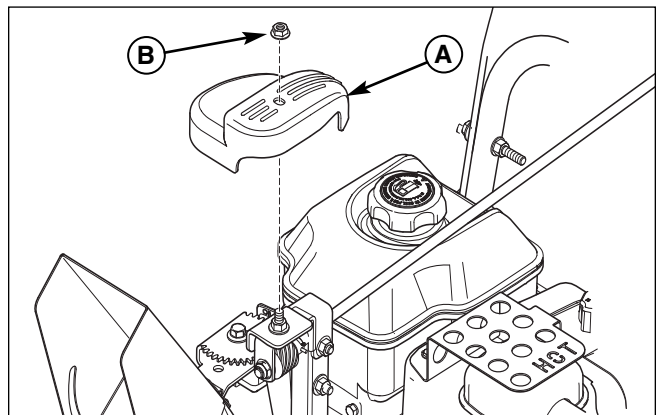

Figure 32. Rotator Cover Removal
8. Remove the 5/16 flange lock nut (B, Figure 32) securing the rotator cover (A).
18. Install rotator cover (A, Figure 32) and secure with 5/16-18 flange lock nut (B). Tighten nut to 11 lb-ft (15 Nm).